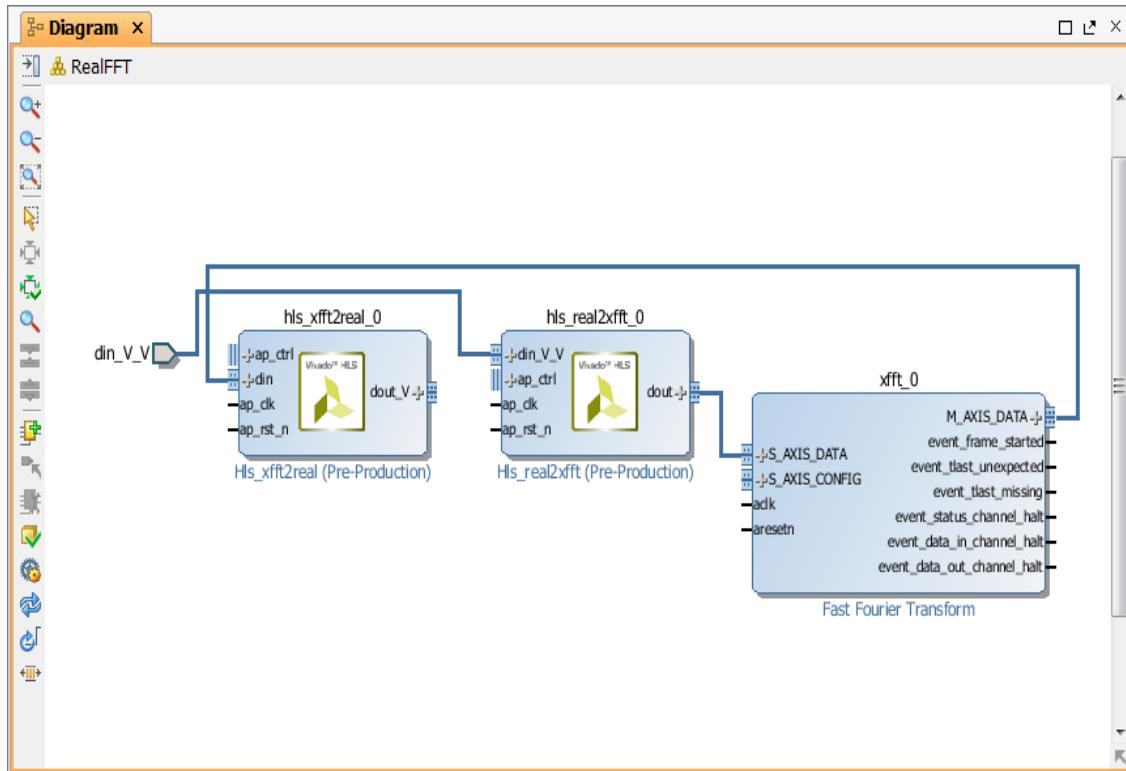

Figure 9-19: Make External Connections
10. Right-click the **din_V_V** interface connector on the **hls_real2xfft** block and select **Make External** (Figure 9-19).